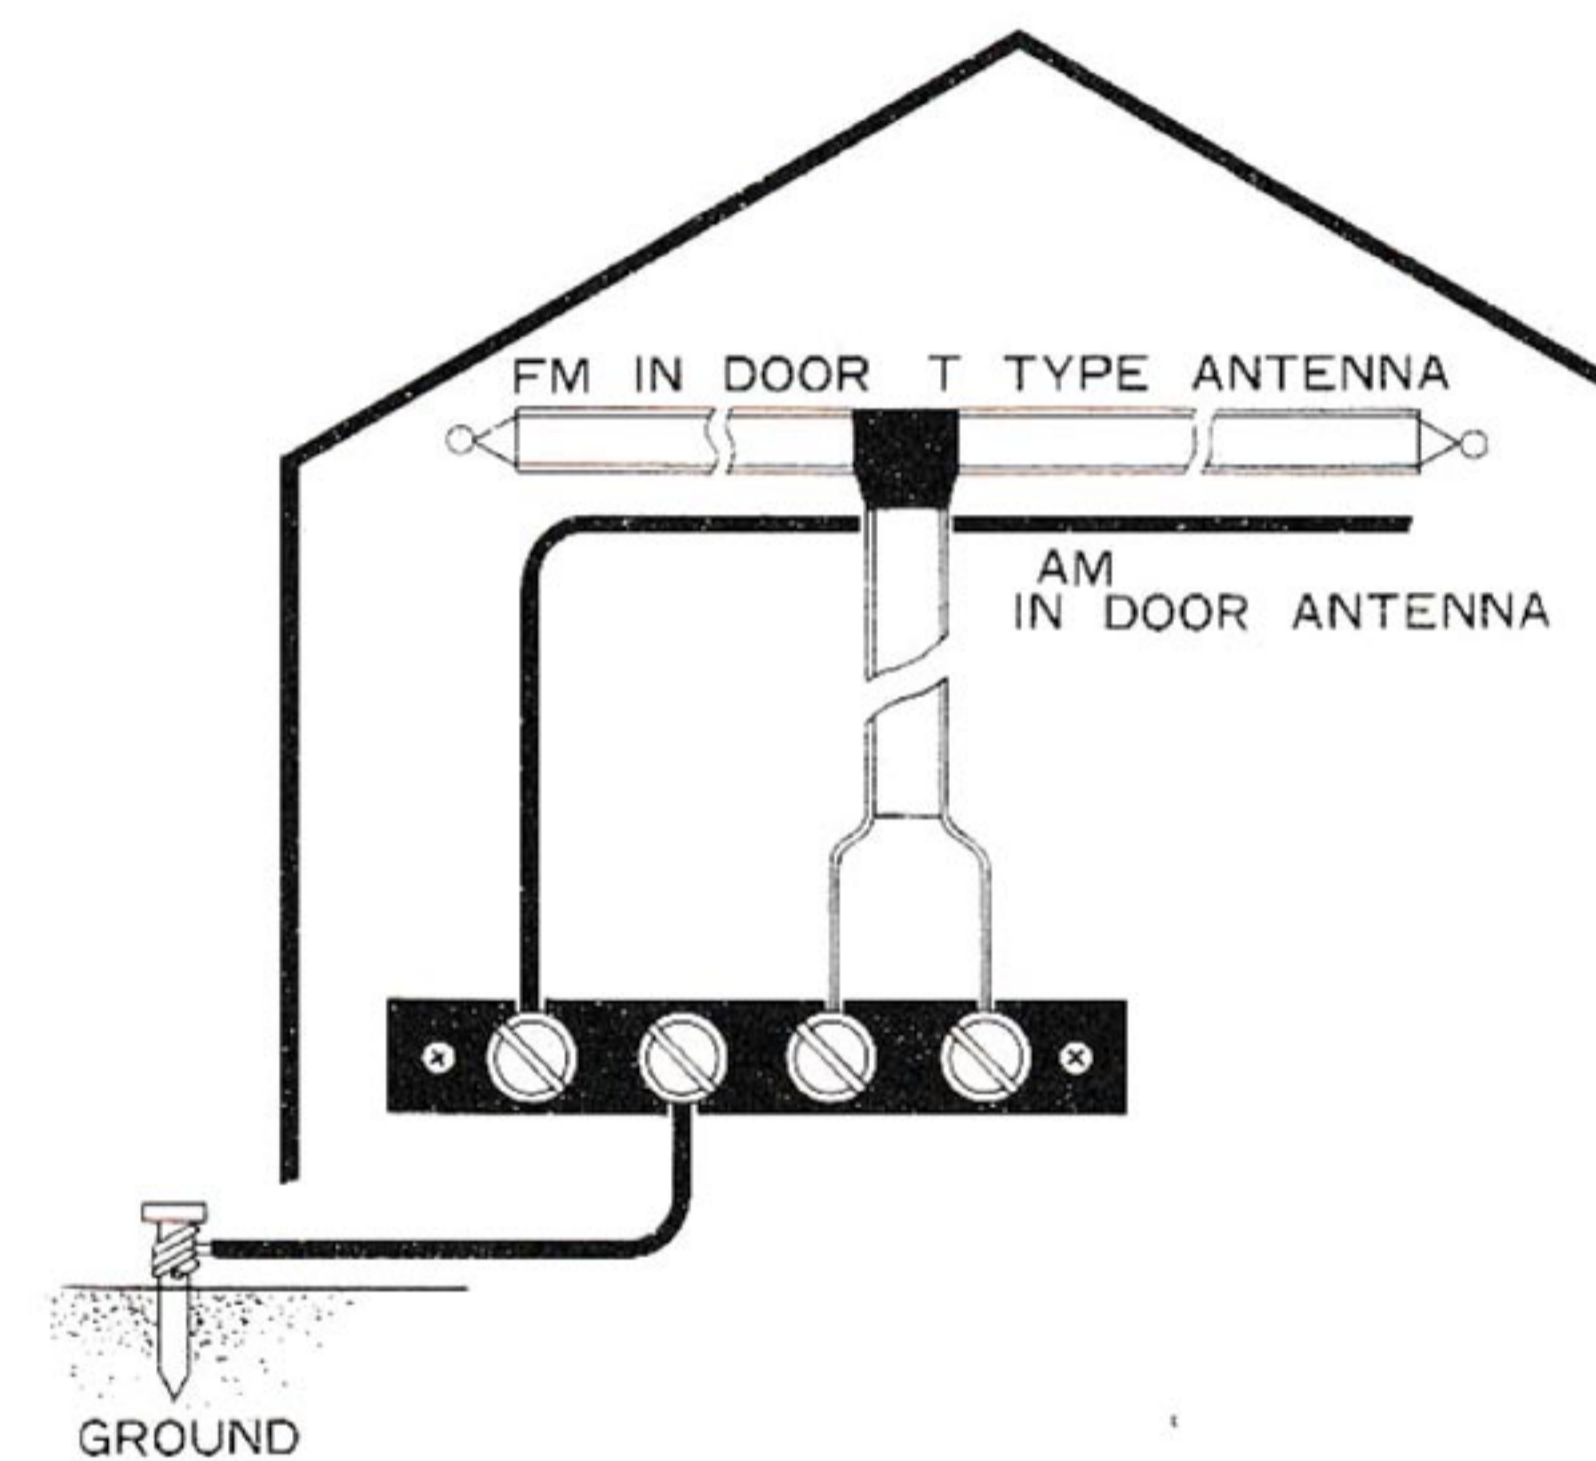

Fig. 6
- \* Employ the T-type indoor antenna accessory to the receiver when using the receiver within a wooden building near the FM radio station. Connect the end of the vertical section of the T-type antenna to the FM ANTENNA TERMINALS (25) as shown in Fig. 6, and expand the horizontal section of the T-type antenna. While actually receiving broadcast, determine the direction of the horizontal section for the best radio reception and fix it on a wall or other place. Refer to the article "RECEPTION OF FM BROADCAST" regarding the determination of the antenna direction.
- \* When using the receiver far from the broadcasting station, behind a mountain or within a ferroconcrete building, install an FM radio antenna (or FM/TV common antenna) outdoors and connect it to the FM antenna terminals (25). The FM antenna is various in type, having 3 to 7 elements. Select the most suitable antenna by consulting a nearby radio antenna sales store.